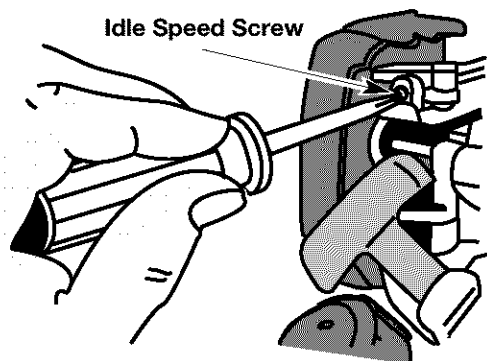

Fig. 23
The idle speed of the engine is adjustable through the Air filter/muffler cover (Fig 23).
2. Release the throttle trigger and let the engine idle. If the engine stops, turn the idle speed screw in clockwise with a small phillips or flat blade screwdriver 1/8 of a turn at a time (as needed), until the engine idles smoothly (Fig. 23).